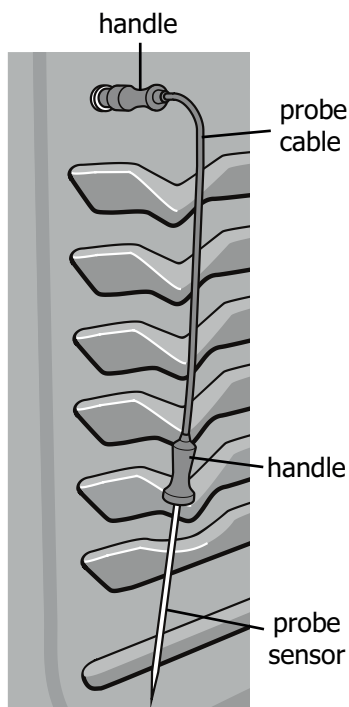

Figure 19: Probe parts
2. Plug the connector end of the probe all the way into the probe receptacle while the oven is still cool. The receptacle is located on the upper left front oven cavity wall (See "Figure 19: Probe parts" on page 34).